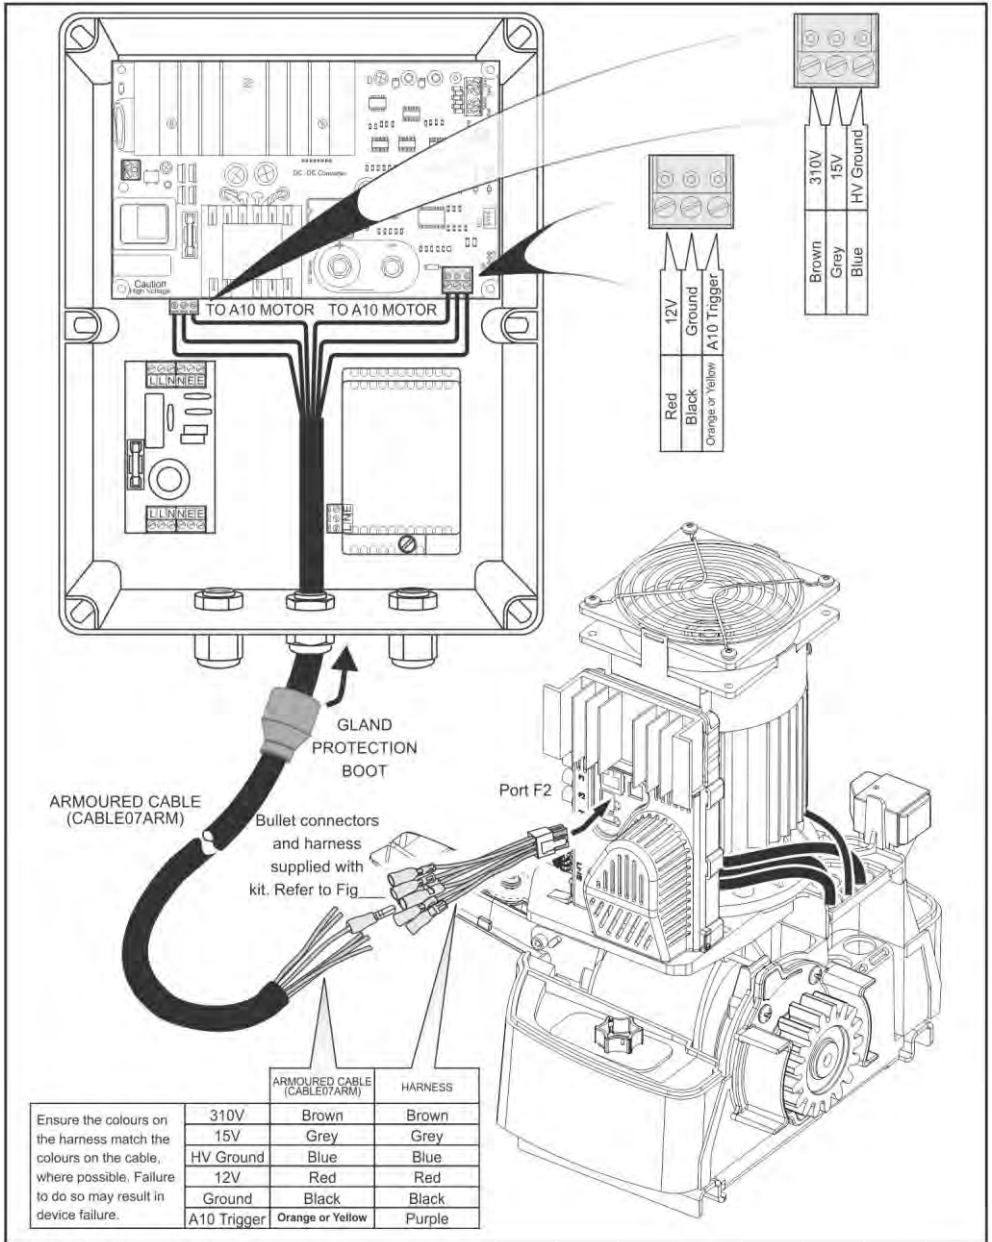

Fig. 6 A10 Operator Connections
3. Terminate both ends of the 7 core cable that links the DC Converter to the A10 operator as shown in Fig 6.
4. Make sure that there is no residual charge left in the A10 operator before plugging in the mini-fit connector of the DC converter harness into the inverter as shown in Fig 6. If in doubt, leave the A10 operator disconnected from the power for a minimum of 10 minutes before connecting the DC Converter.